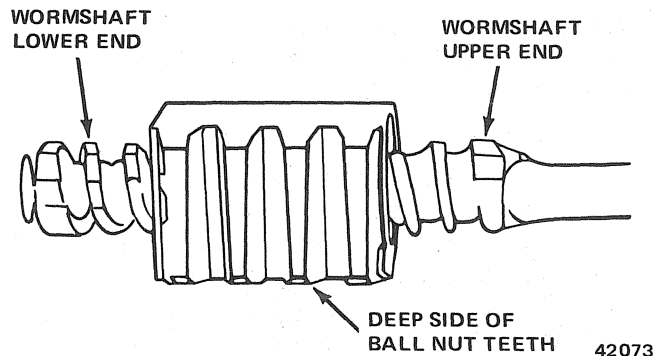

Fig. 2K-6 Positioning Wormshaft in Ball Nut
(2) Install wormshaft in ball nut from left side. Thread shaft into nut until equal number of shaft threads are visible at each end of nut (fig. 2K-6).
CAUTION: The ball nut teeth are machined to a greater width and depth on one side. When assembling the wormshaft and ball nut, position the ball nut so the wider-deeper side of the teeth will face the housing side cover opening after installation (fig. 2K-6).